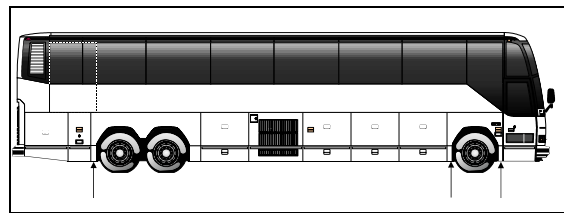

FIGURE 3: JACKING POINTS ON FRAME
1. Raise vehicle by its jacking points on the body (fig. 3 or see Section 18, "BODY" under heading "VEHICLE JACKING POINTS"). Place jack stands under frame. Remove drive axle wheels (if required, refer to Section 13, "WHEELS, HUBS AND TIRES".